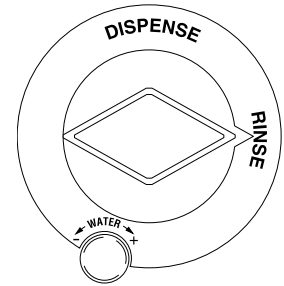

FIG 7 Dispense/Rinse Switch
1. Open the refrigerated compartment's door to access the "DISPENSE/RINSE" Knobs Fig 7.
8. Remove the DISPENSE/RINSE knobs Fig 7, all dispense nozzles, the 2 screws securing the cover to the dispense platform, and the cover.